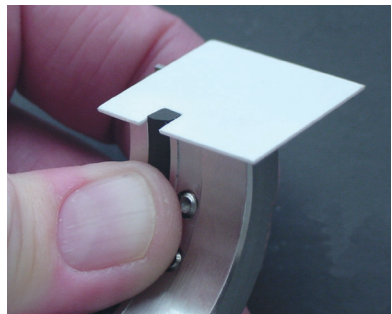

Figure 10
- 3.5 Push the end into the adhesive and check the gasket extension with the "Proud" gauge. Hold it in place for 10 seconds. See Figure 10.